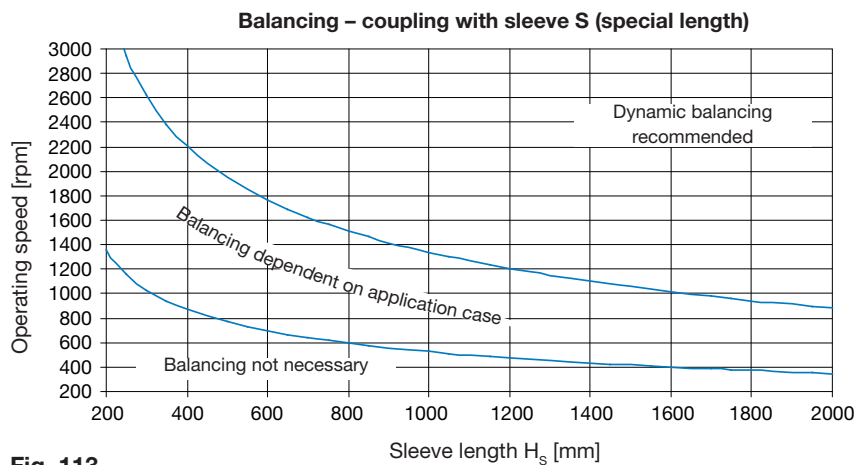

Fig. 113
- length of special sleeve (Fig. 113)